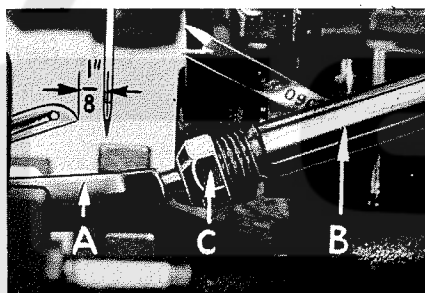

Fig. 5
Insert the 503 stitch lower looper (A, Fig. 5) into bar (B). With lower looper at left end of its stroke set looper point $1/8$ inch from center of needle (Fig. 5) using looper gauge No. 21225- $1/8$. Do not have lower looper deflecting needle. Do not lock looper nut (C) because the looper point will have to be set to the needle scarf after the rear needle guard has been assembled and positioned. (See paragraph under "Final Setting of Lower Looper.")
Now finish lower looper adjustment. As lower looper moves to the right its point should be set into the needle scarf (A, Fig. 7) until the needle springs forward from the rear needle guard surface another .002 to .004 inch. This setting is obtained by rocking the looper forward or backward around its shank. Recheck the $1/8$ inch looper gauge setting and tighten nut (C, Fig. 5).